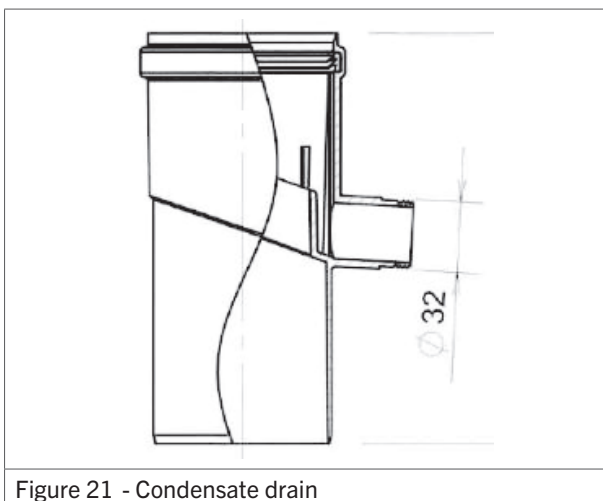

Figure 21 - Condensate drain
- Add a condensate drain (figure 21).